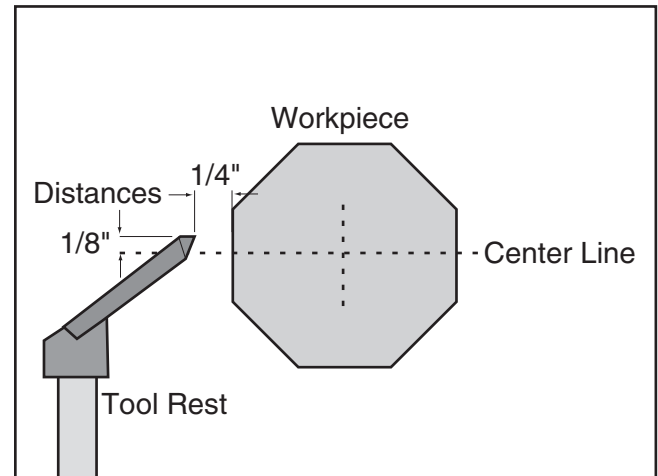

Figure 23. Tool rest set $\frac{1}{8}$ " above the center line and $\frac{1}{4}$ " away from workpiece.
9. Position the tool rest approximately $\frac{1}{4}$ " away from the workpiece and approximately $\frac{1}{8}$ " above the center line, as shown in **Figure 23**.